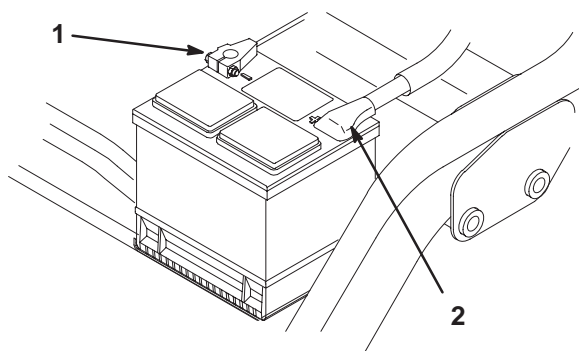

Figure 4
4. First, install the positive cable (red) to the positive (+) terminal and then the negative cable (black) to the negative (–) terminal of the battery and secure them with the bolts and nuts (Fig. 4). Slide the rubber boot over the positive terminal to prevent a possible short from occurring.